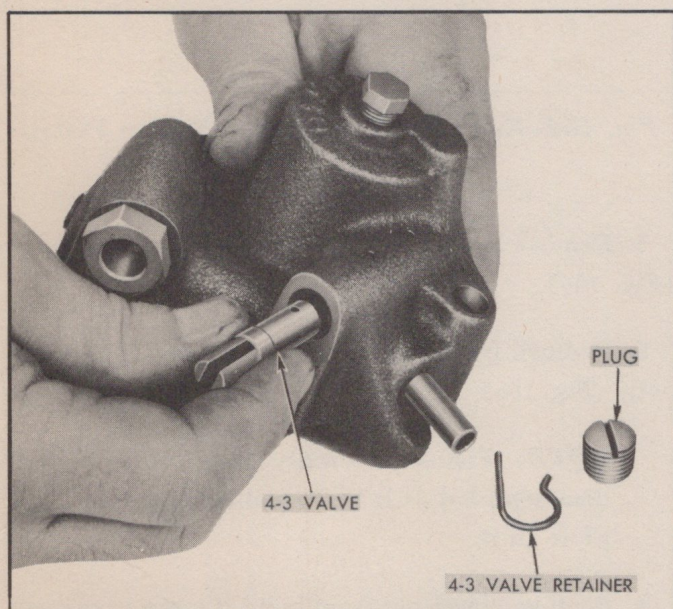

Fig. 167—Removing 4 to 3 Valve
9. Remove 4 to 3 valve from servo body (Fig. 167).